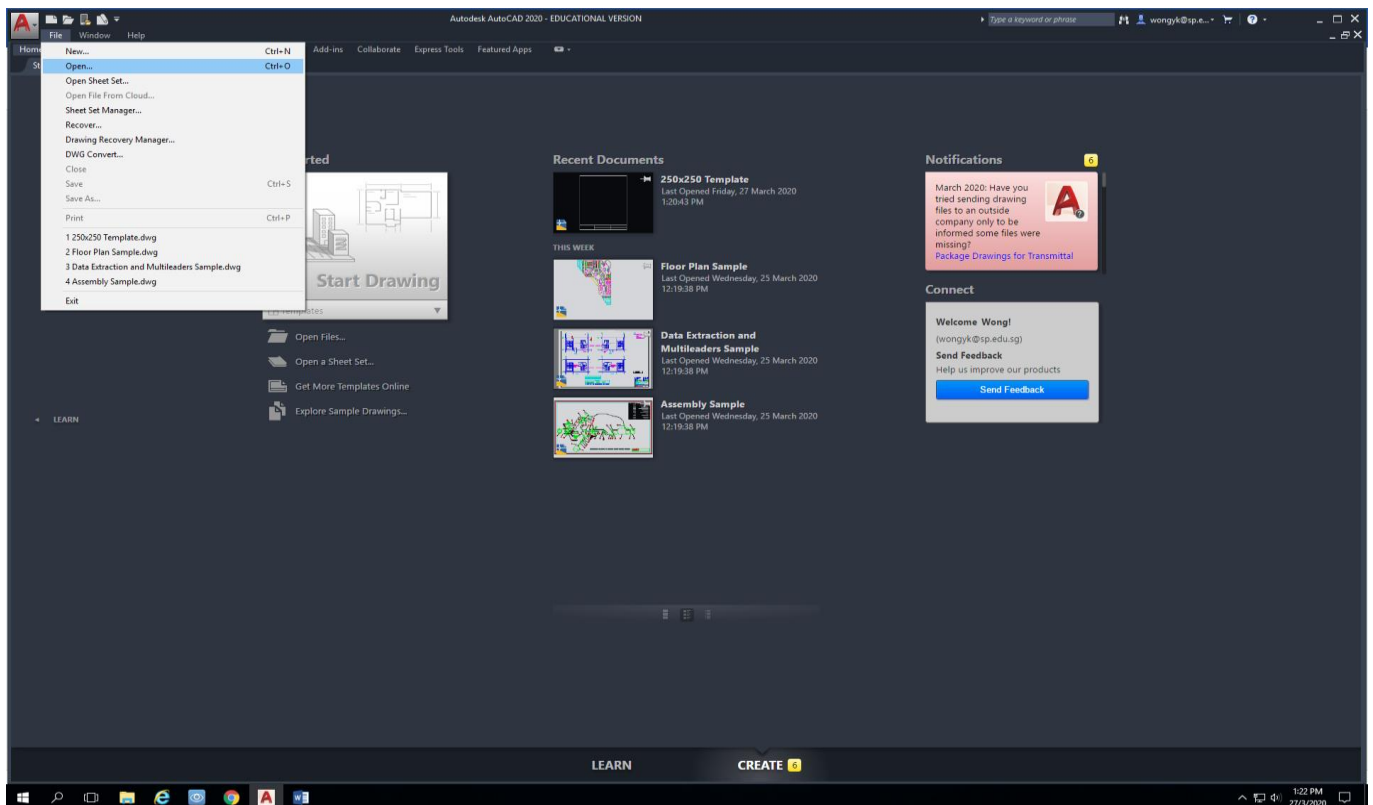

FIG 1
Launch AutoCAD 2020 and do all the 8 settings and insert the 6 frequently used toolbars (See Fig 1) as highlighted in UNIT 1 & 1A in Blackboard (BB)→Learning Resources→ LAB accordingly:
3. Use Default A3 size workspace. Leave it as A3 size paper (420 mm x 210mm) as shown in Fig 1, so no need to set LIMITS.
Next open the file EXERCISE 1B shown Fig 1: